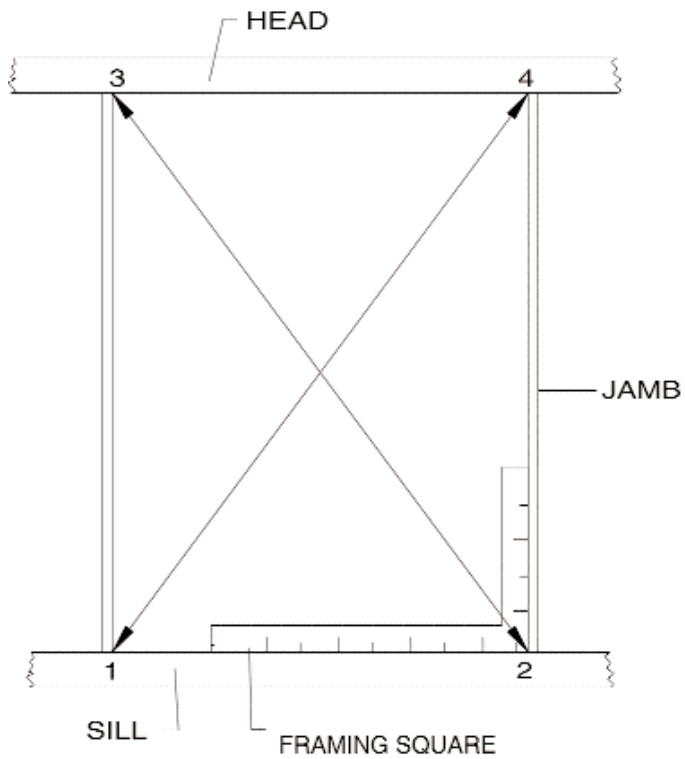
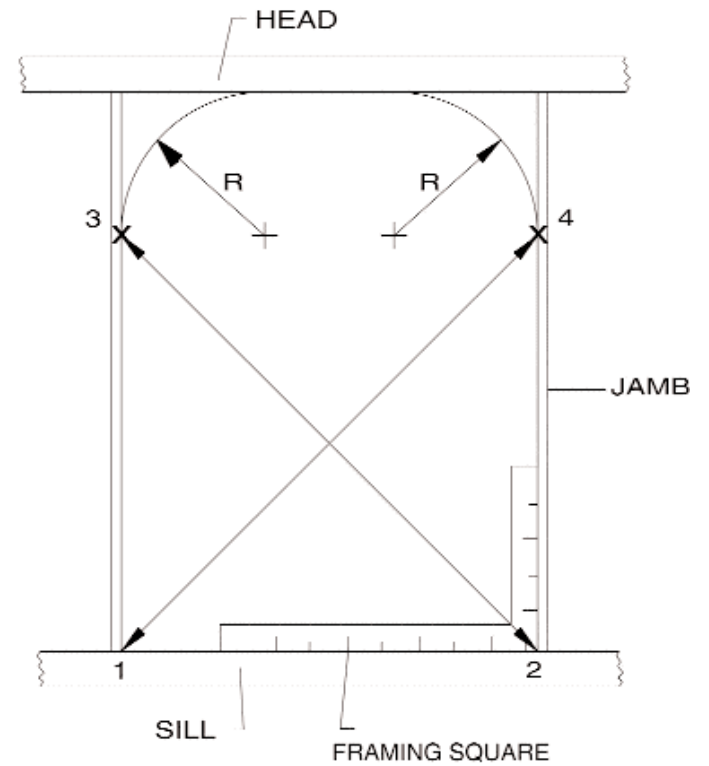

Figure 1
Figure 2
3. For square corner doors check the squareness with diagonal measurements (see figure 1). The difference between 1 to 4 and 2 to 3 should not exceed 1/4". If the R.O. does not conform to these requirements, it must be modified so that the sill is square to the floor within tolerance and the diagonals are within the 1/4" allowance.
4. For radius corner doors check the squareness with diagonal measurements (see figure 2). The difference between 1 to 4 and 2 to 3 should not exceed 1/4". If the R.O. does not conform to these requirements, it must be modified so that the sill is square to the floor within tolerance and the diagonals are within the 1/4" allowance.
4. After the fasteners have been installed through the midpoint of the mounting flange at the hinges and lock sides, it is recommended that you re-check the door frame to be certain it is centered from side to side in the opening, and that the door frame is square, (measure opposite corners of the door frame in a manner similar to measuring the diagonals of the R.O. (see figure 1) or the radius corner door (see figure 2), it should be within 1/8". Before proceeding, check to ensure that the door frame is square and operable. If it is not, remove fasteners and reinstall frame as per the above instruction. If shipping block(s) is present, remove at this time.